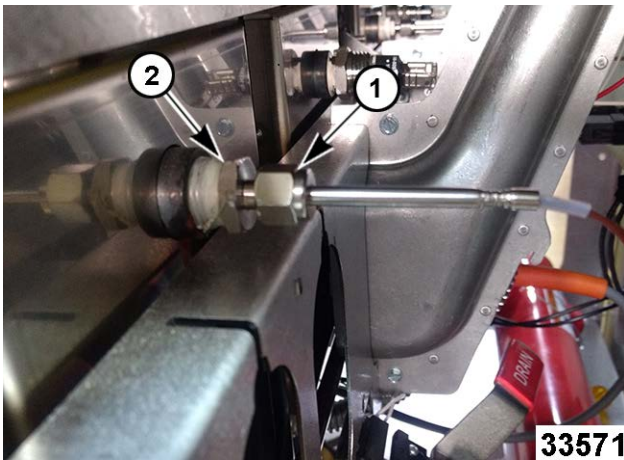

Fig. 26
4. Loosen packing nut (1, Fig. 26).
5. Remove mounting nut (2, Fig. 26).